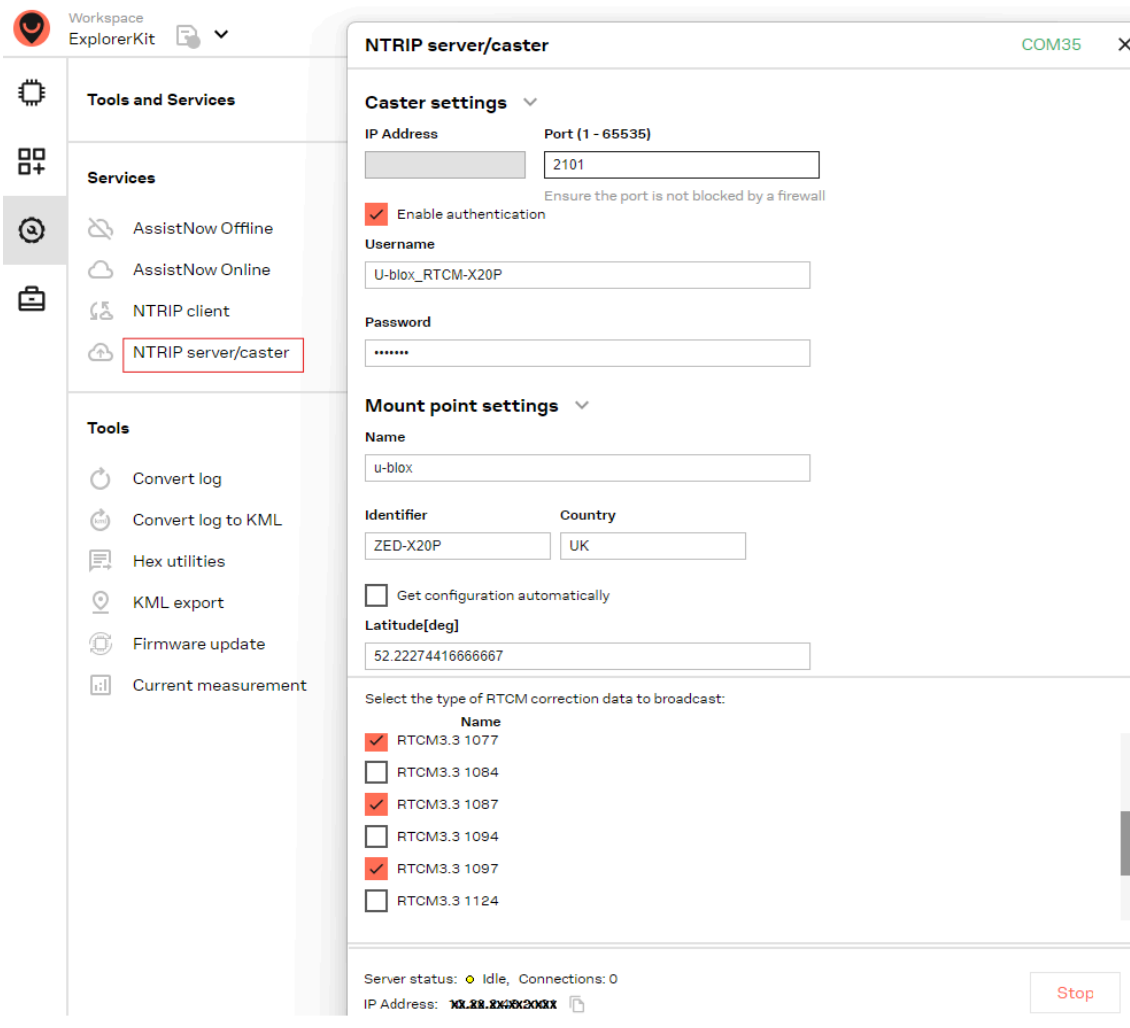

Figure 10: u-center 2 NTRIP caster status
8. IP address of the caster is available at the bottom of the window as shown in Figure 10. This is the IP through which the client can access the caster.
9. Monitor the caster status from the same window, as in Figure 10.